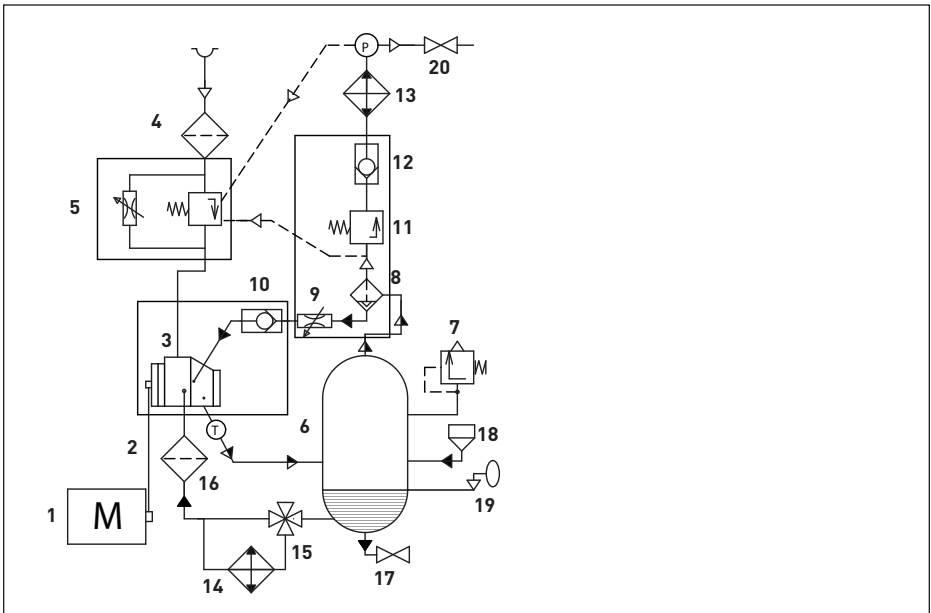
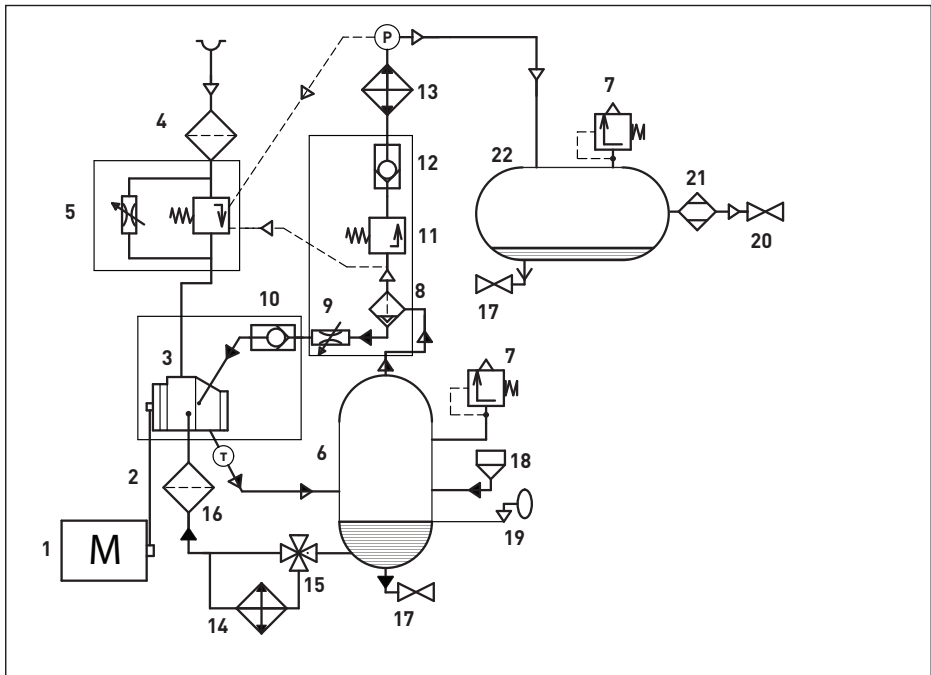

Fig. 2.3.1 Function diagram A/F.
Fig. 2.3.2 Function diagram AR/FR.., ARD/FRD..
2.4 Functional description (see Fig. 2.3.1 and Fig. 2.3.2)